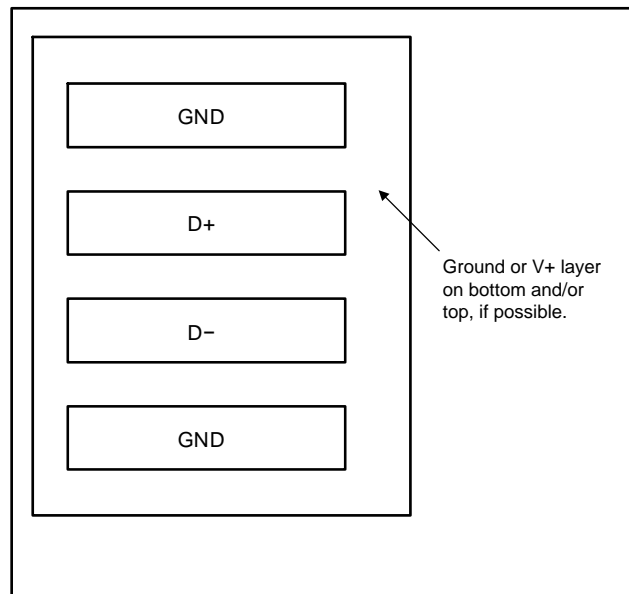

Figure 21. Example Signal Traces
- Route the D+ and D– traces next to each other and shield the traces from adjacent signals using ground guard traces, as shown in Figure 21. If a multilayer PCB is used, bury these traces between ground or VDD planes to shield them from extrinsic noise sources. TI recommends using 5-mm (0.127 mm) PCB traces.